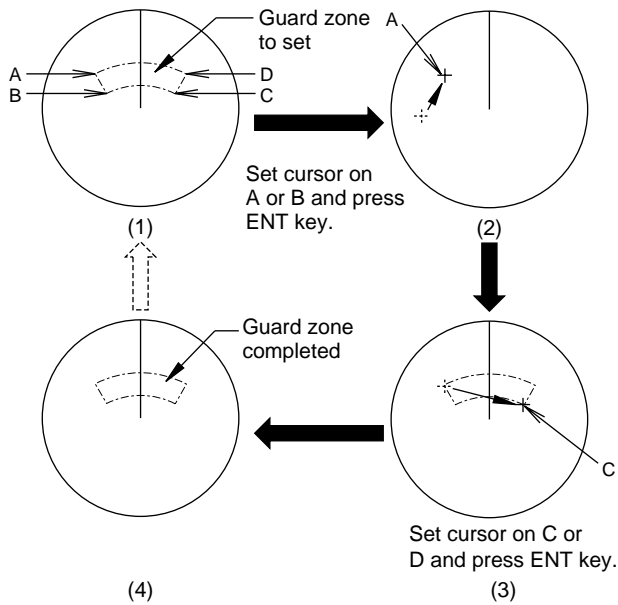

Figure 2-19 How to set the guard zone
5. Referring to Figure 2-19, operate the omnipad to set the cursor on point A or B. Press the [ENT] key. "\*G (IN)" or "\*G (OUT)", with asterisk blinking, appears at the top right-hand corner of the display. The asterisk indicates the guard zone is partially set.